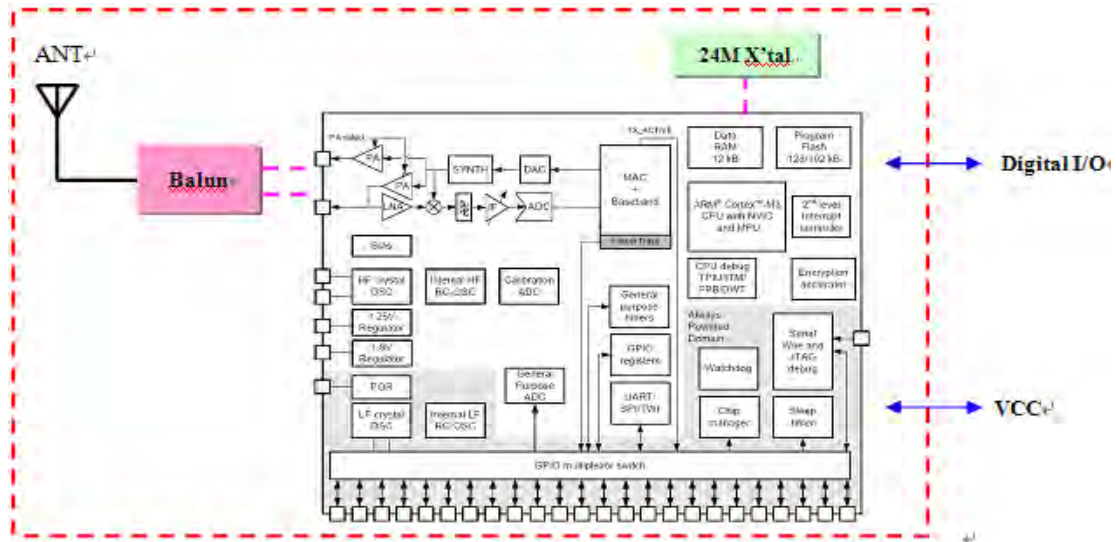

Figure 3-1: DFZM-E822x Block Diagram
- o The low power module option has a capability of +8dBm output power at the antenna (see Figure 3-1).